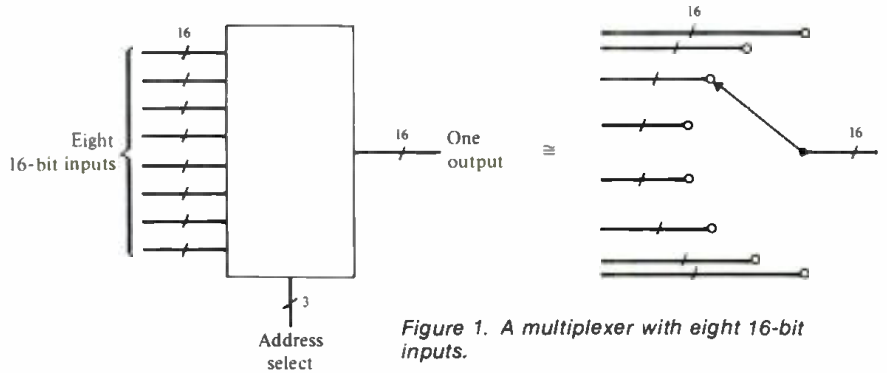

Figure 1. A multiplexer with eight 16-bit inputs.
associated with such a multiplexer). FIGURE 1 shows a multiplexer with eight 16-bit inputs.
• The acoustic lens was described by Kock and Harvey of Bell Telephone Laboratories in the forties. Later studies were undertaken by Frane and Locanthi. There are two basic types of lenses, slant-plate and perforated-plate, and they are shown in FIGURE 1. By either action, there is a shorter path through the center of the lens than its edges. Thus, waves exiting at the center (which are ahead of those exiting at the sides) tend to fan out, offering greater coverage.